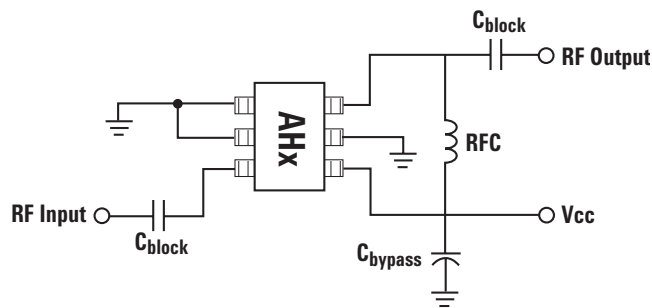

Figure 1. ABA-51563 Production Test Circuit.
1. Measurements taken on $50\ \Omega$ test board shown on Figure 1. Excess circuit losses had been de-embedded from actual measurements. Standard deviation and typical data based on at least 500 parts sample size from 6 wafer lots. Future wafers allocated to this product may have nominal values anywhere within the upper and lower spec limits.